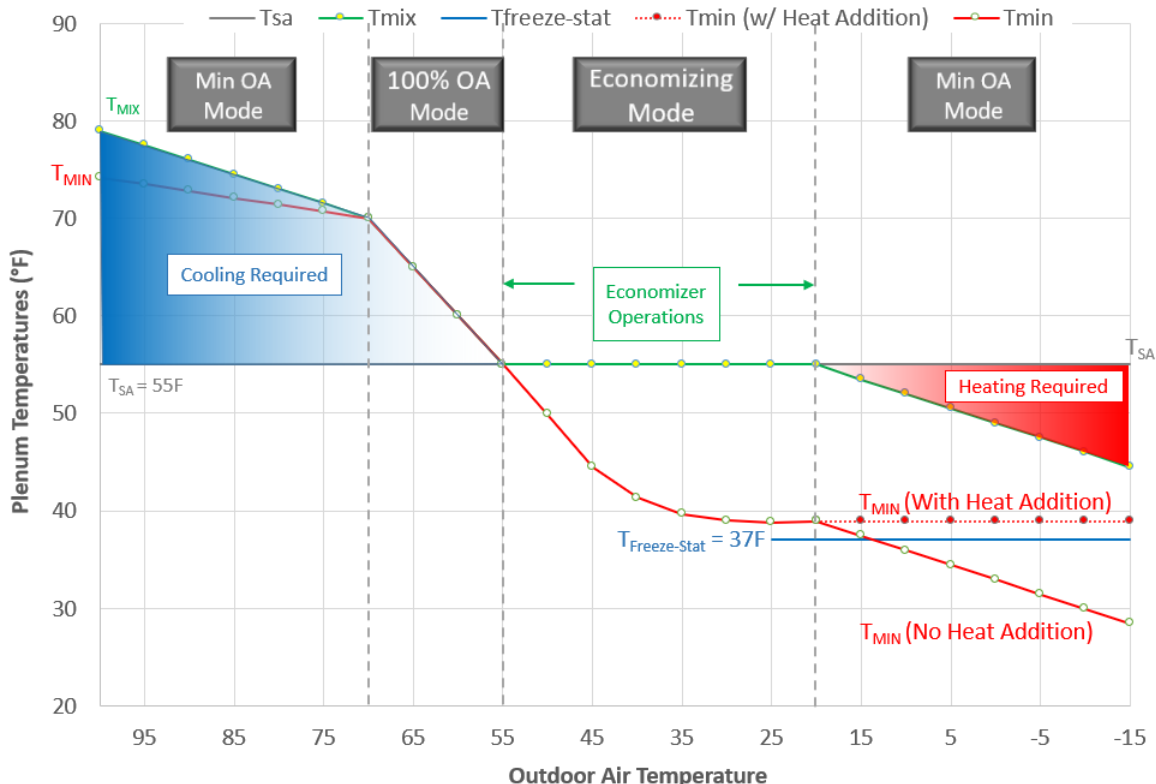

Figure 1. Air Temperature Stratification as a Function of Downstream Mixing Distance (AB Series IV)
The various operating modes for an AHU are highlighted in **Figure 1**. The plot shows various plenum temperatures (e.g., mixed air temperature, minimum temperature) as a function of outdoor air (OA) temperature with a Series IV Air Blender (AB) installed. This AHU has a minimum OA requirement of 30%, thus introducing cold air (OA temps <15°F) into the mixing section can trigger nuisance freeze-stat trips. However, when the mixed air temperature falls below the 55°F supply air setpoint, heating is required and the minimum temperature is maintained above the 37°F threshold.